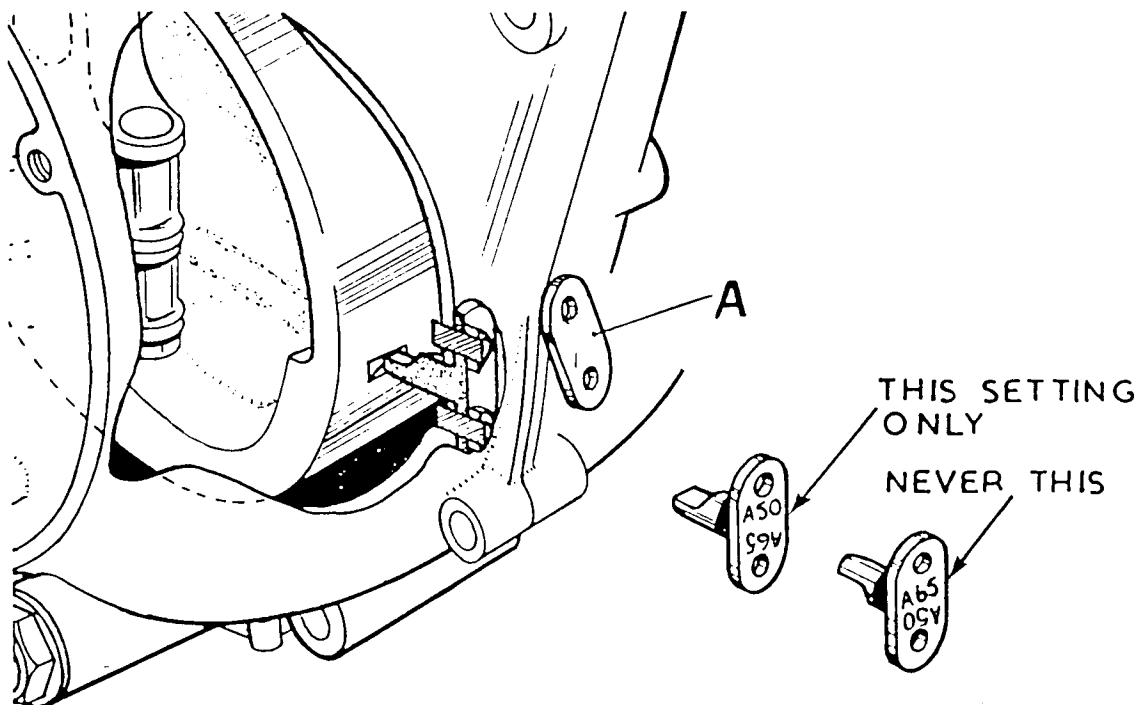

FIG. B.82.
Remove the crankcase cover (A) Fig. B.82, and insert the peg with the A50 model number uppermost and using light finger pressure on the plug, turn the crankshaft slowly until the plug drops into the groove in the flywheel.